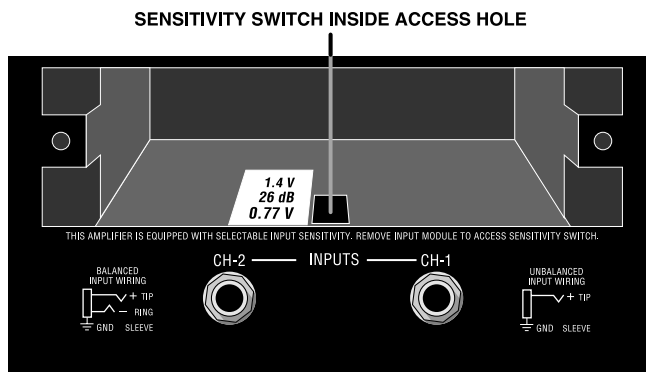

Figure 3.7 Input Sensitivity Switch
3. Locate the labeled access hole for the sensitivity switch (Figure 3.7). The sensitivity switch will not be visible because it is mounted below the hole. Use your little finger to reach it.